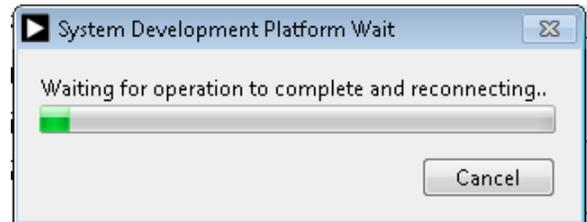
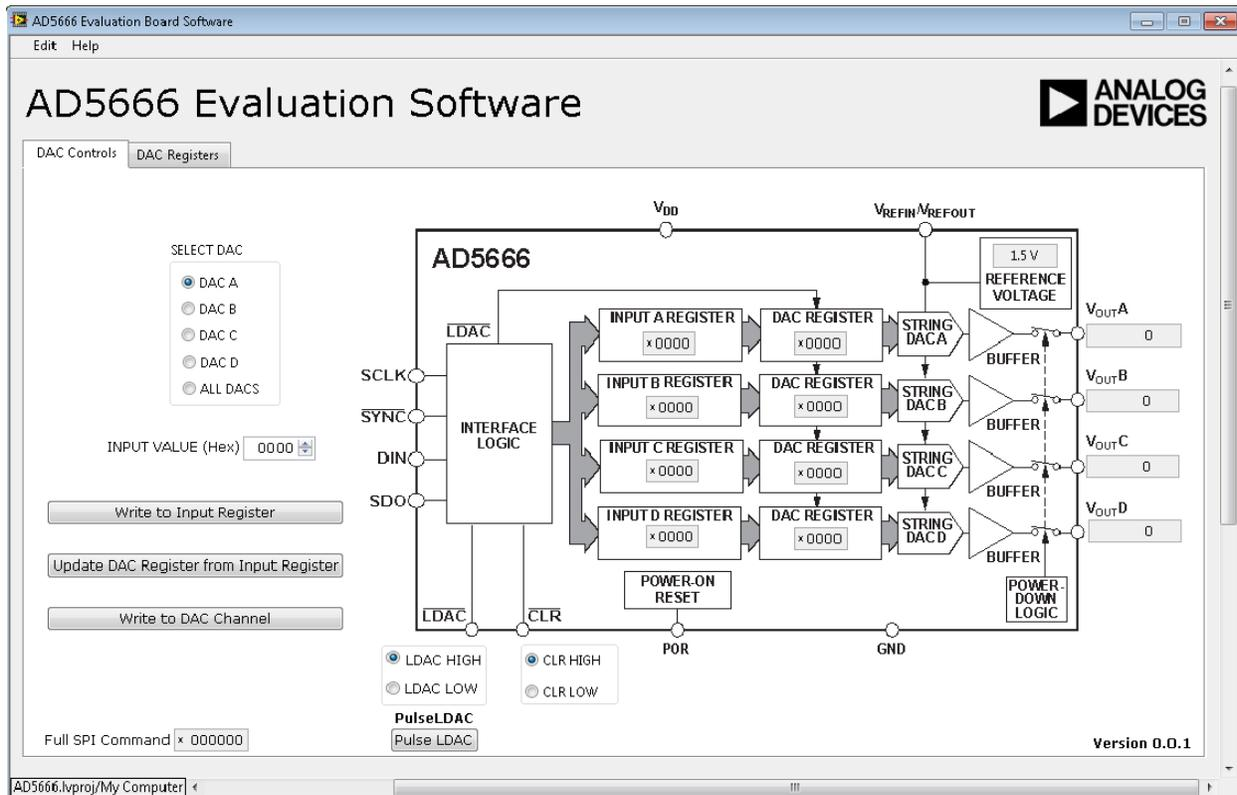

Figure 4. System Development Platform Wait Window
Figure 5. AD5666 Evaluation Board Main Window, DAC Controls Tab
4. When the SDP board is connected, a wait window is displayed briefly (see Figure 4), and then the main window of the AD5666 evaluation software opens, as shown in Figure 5.
The AD5666 main window opens, as shown in Figure 5.
The **DAC Controls** tab (see Figure 5) allows you to view the input register, DAC register, and output voltage (VOUTA to VOUTD). On the left side of the window, you can type a hexadecimal value into the **INPUT VALUE (Hex)** box to be written to the input and/or DAC registers as follows: